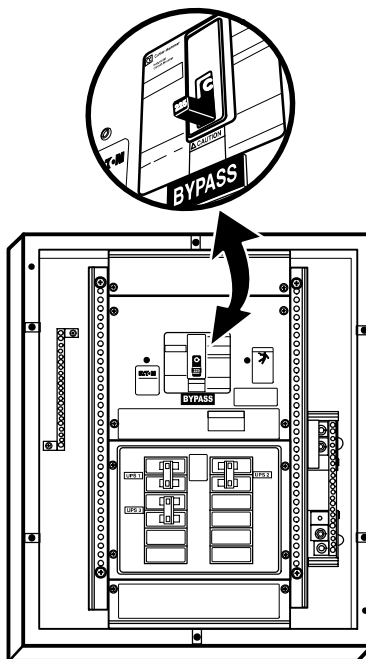

Figure 8. Parallel Bypass Breaker
8. Verify that the parallel bypass breaker is in the OFF position (see Figure 8).